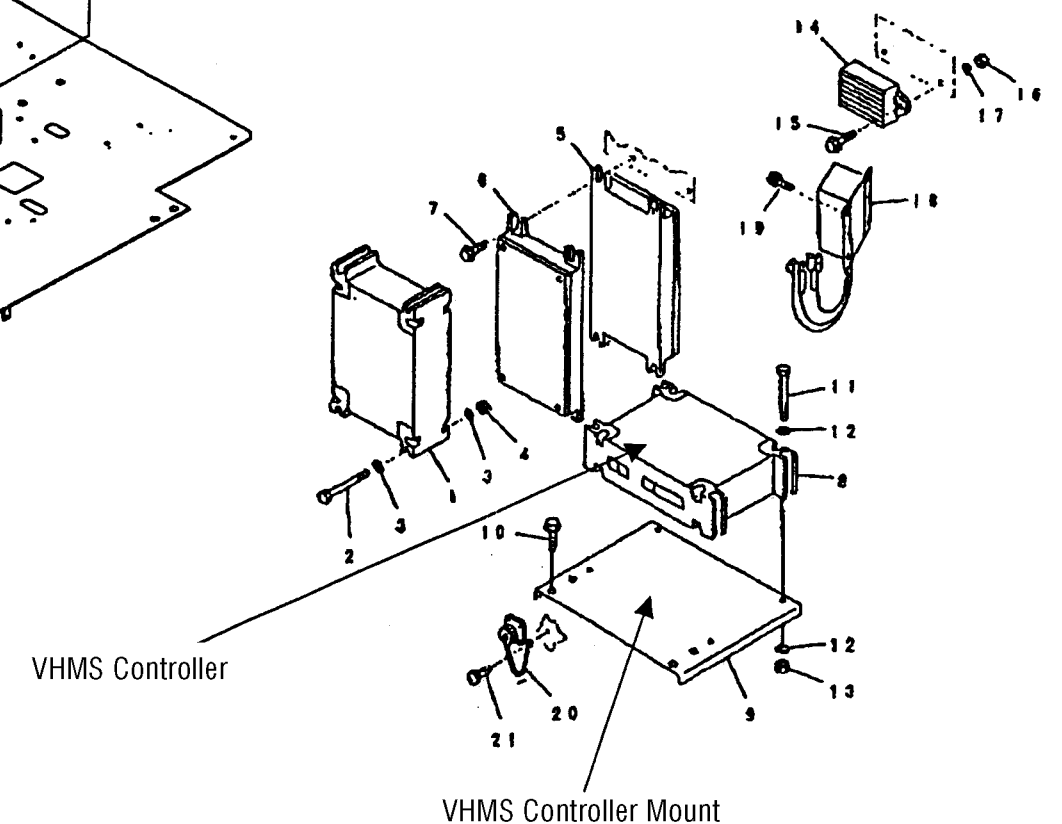

Fig 3
###### ② Pull out the VHMS controller mount. (See Fig 3)
###### ④ Dismantle the installed VHMS controller. (See Fig 3)